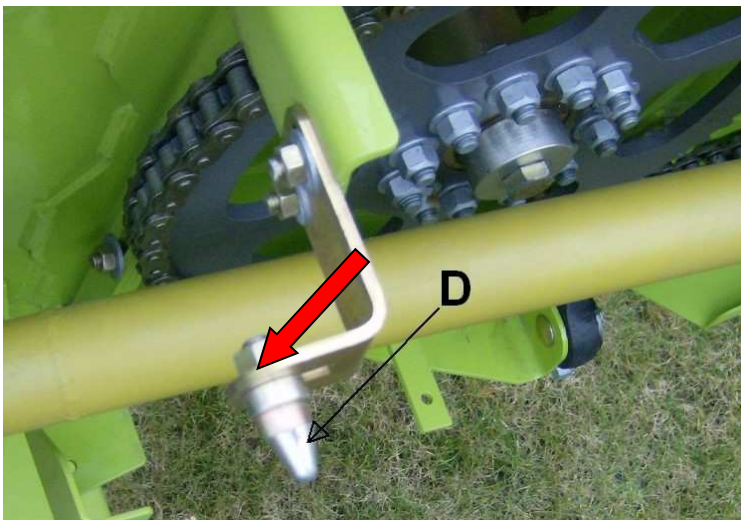

Figure 34
Remove the cone pegs (D) from the closure of the header side protection. Figure 34